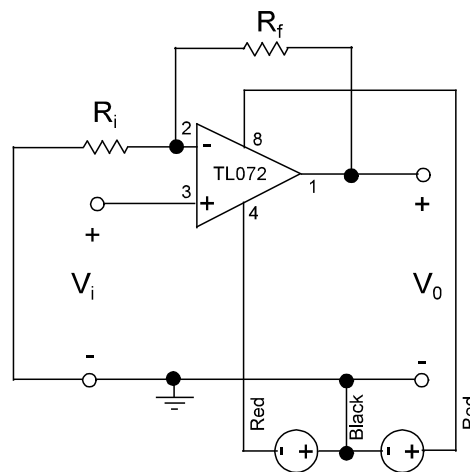

Figure 9-1: Circuit Diagram for Non-inverting Amplifier
- Use the circuit in Figure 9-1 to design a non-inverting amplifier that will take a signal in the range of 10 to 20 mV and produce an output in the range of 200 to 500 mV.
2.1 Build the Circuit: Select the resistors you determined from the pre-lab. Measure the resistors with the ohmmeter and use their values to calculate the nominal gain for the op-amp circuit. Build the circuit shown in Figure 9-1. Double check your connections before powering the circuit and limit the current to 100mA. A wrong connection or too much current can destroy the op amp. Verify that the op amp is powered correctly. The 6 V DC source will be V_i and it should be set to 0.5V. Measure the output of the op-amp and calculate the gain to confirm that the circuit is working correctly. Record the measured and nominal values for the gain on a data table and perform an error analysis.
- Circuit that you designed like Figure 9-1 with all components labeled, including the pin numbers of the TL072 IC chip. If you changed your design from the pre-lab work note what you changed and why.